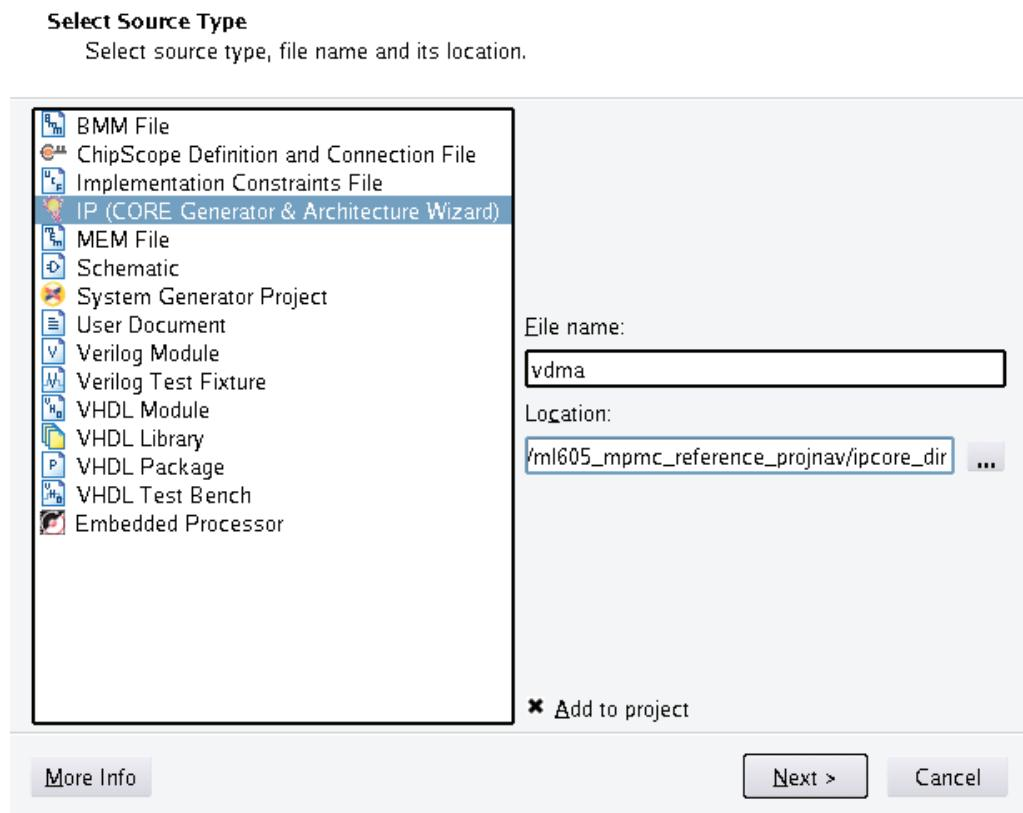

Figure 72: New Source Wizard - Source Type Menu
66. Go to **Project > New Source...** and select **IP (CORE Generator & Architecture Wizard)** with a name of **vdma**. Click **Next** (Figure 72).